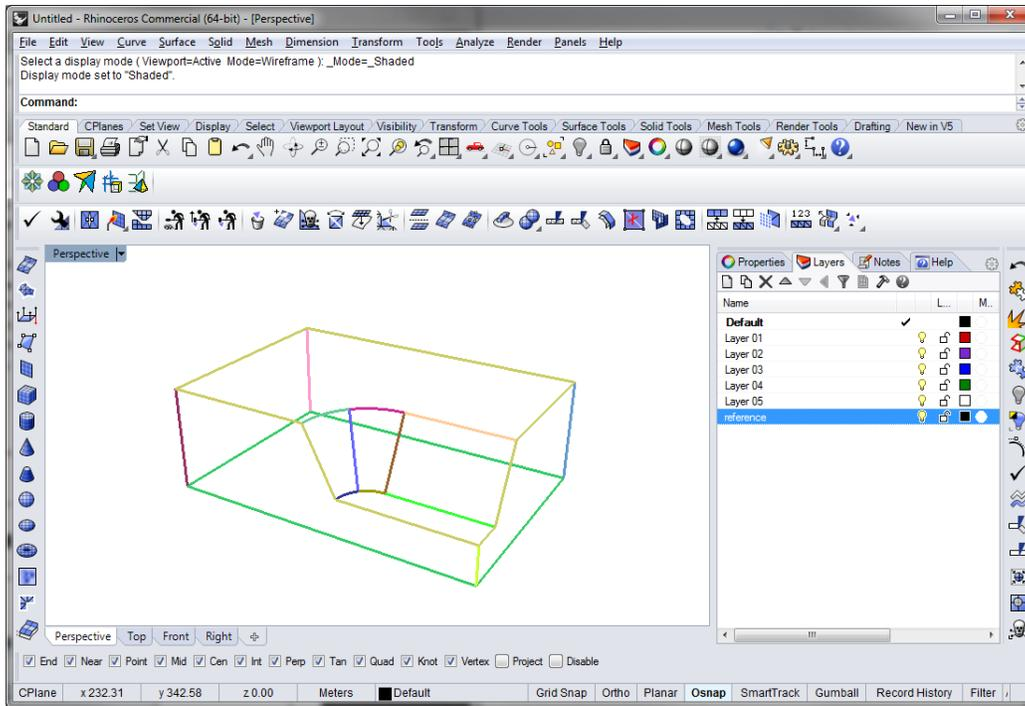

Figure 54: The reference model.
3. Click on the **Edit Layers** icon to open the **Layers** pane to the right of your *Rhino* window. In the **Layers** pane, click on the **black square** indicating the current **color** of the **reference** layer and select **Aquamarine** to change the color of this layer to aquamarine. Select **Shaded View** (see subsection **Thicker lines** in section **Setting up your work environment**) and maximize the **Perspective Viewport** (Figure 54).